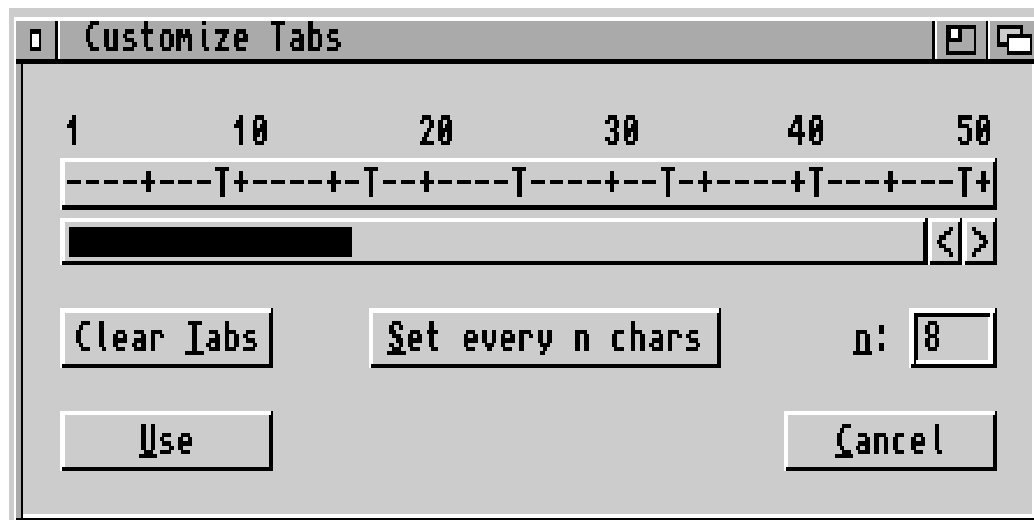

Figure 6.2: The Customize Tabulators... window.
The `Customize Tabulators...` window is shown in figure 6.2. The options in this window lets you customize the horizontal tab stop settings of your printer, useful for printing program listings and tables. Up to 32 tab stops may be defined with the Canon BJ-EC driver (BJ mode drivers normally allow up to 28 tab stops). All tab stops above the limit of 32 (28) are ignored, and a requester will tell you so. Horizontal tabs are usually selected and stored by the printer in characters, not inches. Thus, any change in the character spacing can change the physical locations of horizontal tabs, but the logical positions remain unchanged.